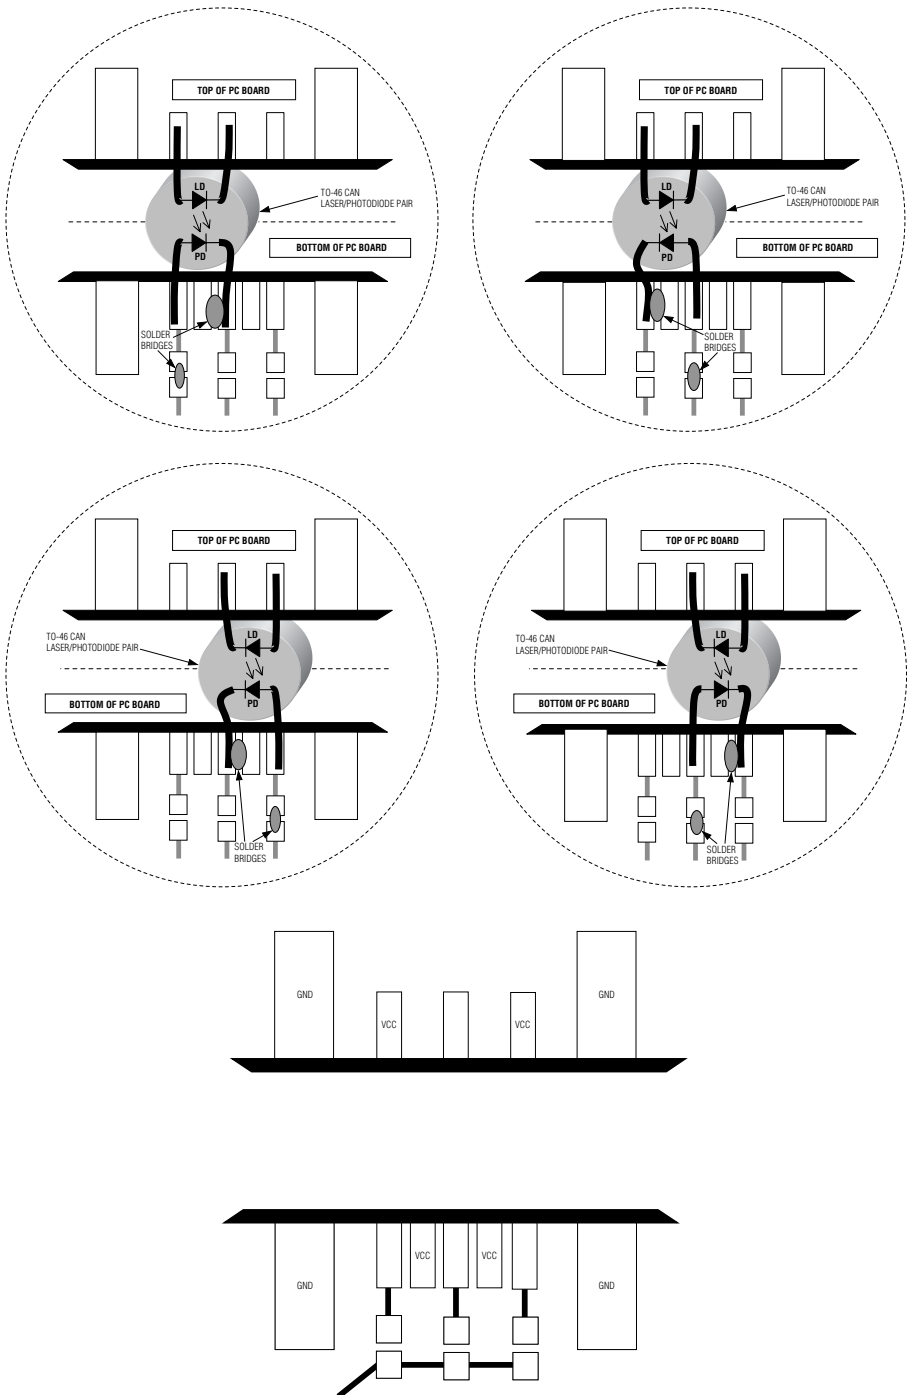

Figure 1. Laser Diode/Monitor Diode Attachment to the MAX3863 EV Kit
- 5) The EV kit is designed to allow connection of various laser/monitor diode pin configurations. Connect a TO-header style laser with monitor diode (Figure 1) as follows:
- The monitor photodiode pads are arranged in a series of five pads on the bottom (solder side) of the PC board. Next to the five photodiode pads are three solder bridge pad pairs. The MD pin can be connected to any three of the five pads through a solder bridge. The remaining two of the five pads are connected to VCC. The VCC pads are placed between the pads going to the solder bridge pads. Solder the photodiode to the nearest two of the three pads going to the solder bridge pads (Figure 1).